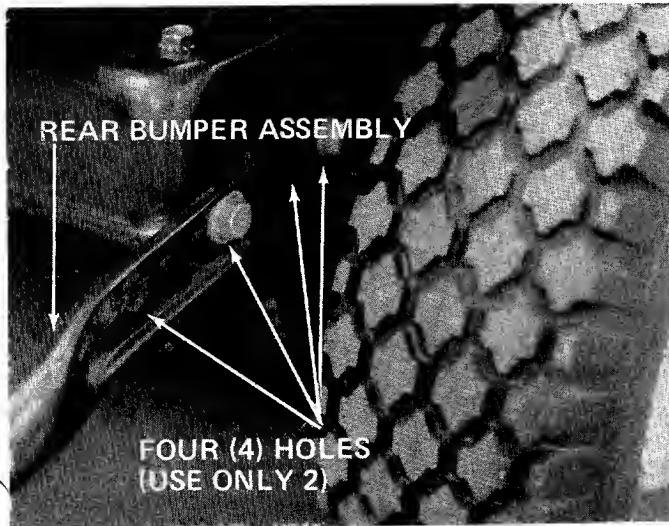

FIGURE 4
2. Align two of the holes on the bumper assembly with the two holes on the rider's rear frame. Refer to page 6. Secure in place with hex screws (D), flat washers (F), lockwashers (G), and hex nuts (E). See figure 4.